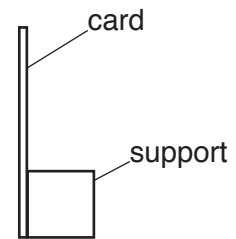

Fig. 3.3
- (iv) Screen. A white sheet of stiff card approximately 15 cm × 15 cm, fixed to a wooden support is suitable. See Fig. 3.3.